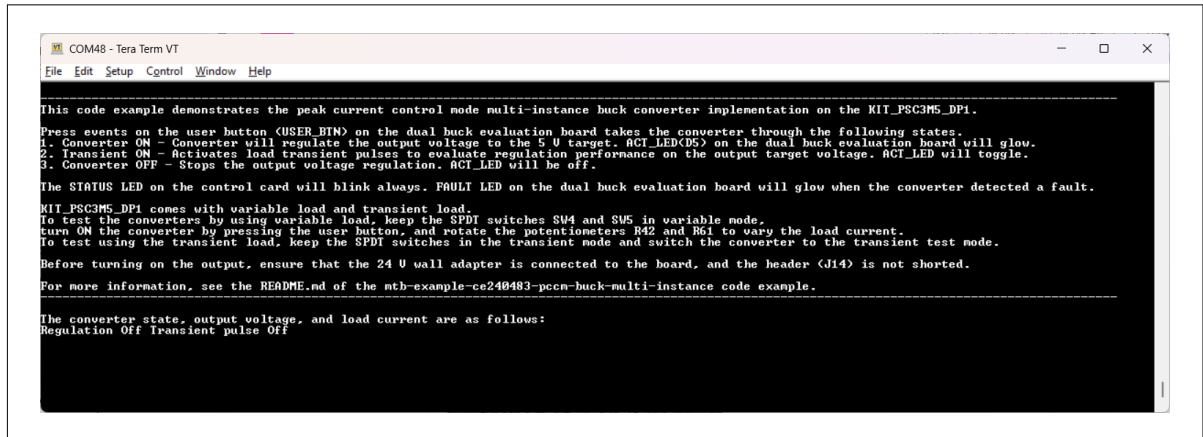

Figure 4 Serial terminal boot message
8. Press the XRES button (SW1) on the Control card and confirm that the serial terminal application displays the boot-up message as shown in Figure 4.